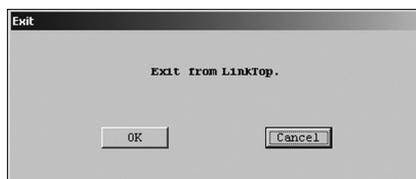

Fig.15
To exit the LinkTop, click on "File (F)" at top-level menu of the screen, select "Exit (E)," and click on again. A message box as shown in Fig. 15 appears. If you are sure to exit the LinkTop, click on "OK" button. Clicking on "OK" button will cause the application window to disappear from the desktop. To abort the terminating process, click on "Cancel."